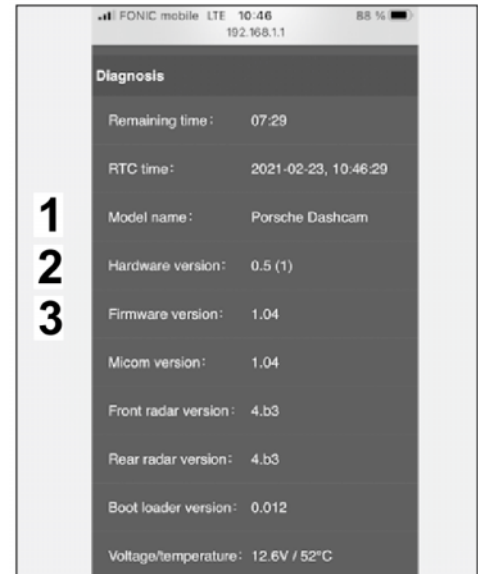

Figure 26
6.1 Information about the model name, hardware and software version, radar and more (⇒ *Figure 26*).